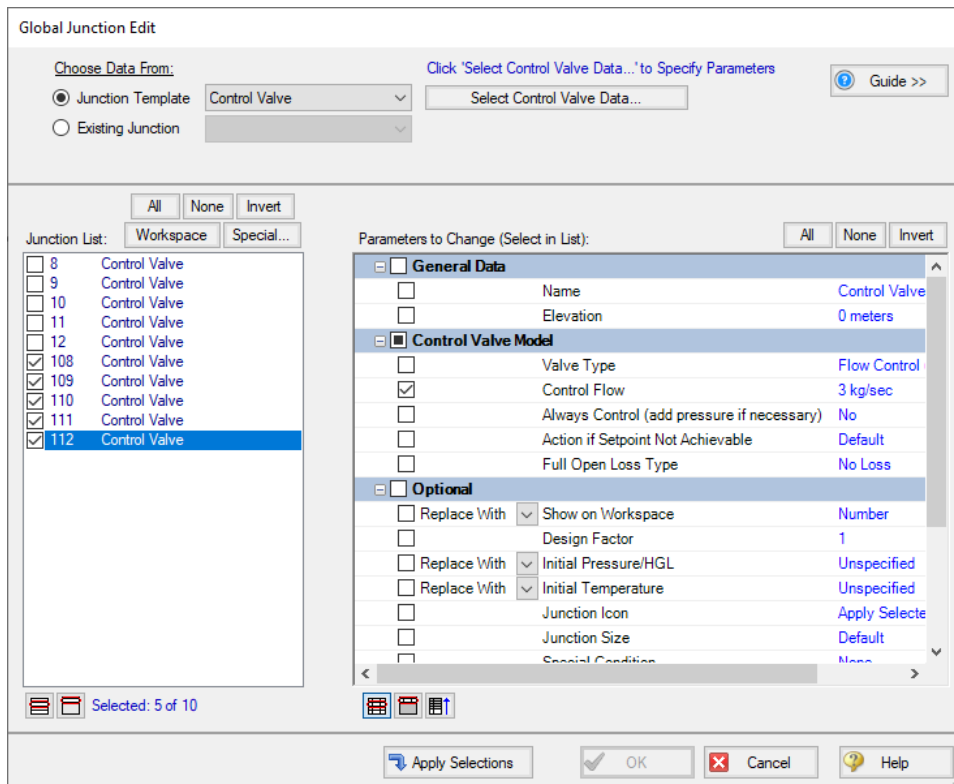

Figure 10: Global Junction Edit is used to change the flows in the homes for the dependent cases
7. Use Global Junction Edit (from the Edit menu) to change all of the control valve setpoints in the DDC from 2.4 kg/sec to 3 kg/sec (see Figure 10).